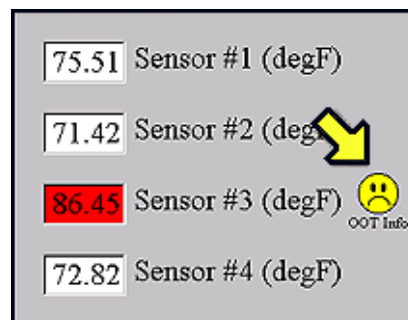

Figure 6
- 106 Save and print a hard copy of the out-of-tolerance event by clicking on the "OOT Info" icon on the STM screen. See the arrow in Figure 6.